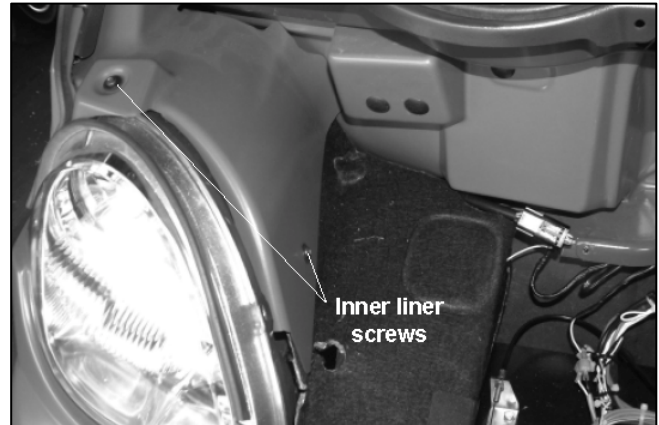
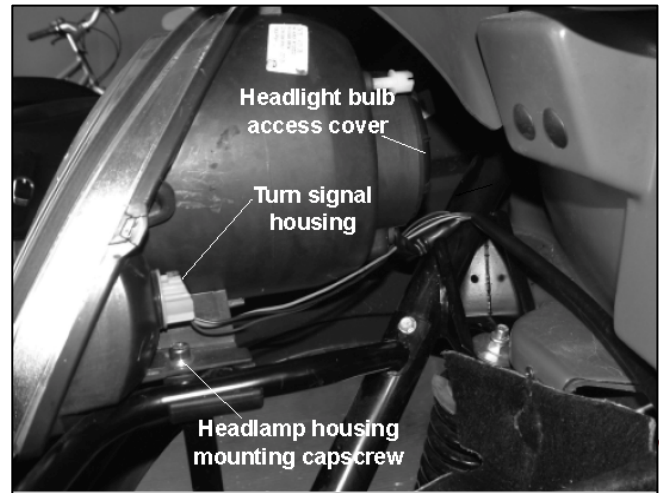

Figure 7-1
Figure 7-2
2. Remove two screws, washers and rubber washers securing inner liner (Figure 7-1) to access the turn signal housing (Figure 7-2).
5. Install inner liner with two screws, washers and rubber washers (Figure 7-1).
2. Remove two screws, washers and rubber washers securing inner liner (Figure 7-1) to uncover the headlight bulb access cover (Figure 7-2).
7. Install inner liner with two screws, washers and rubber washers (Figure 7-1).
2. Remove two screws, washers and rubber washers securing inner liner (Figure 7-1).
3. Remove the turn signal housing from the headlamp housing (Figure 7-2).
10. Install inner liner (Figure 7-1).